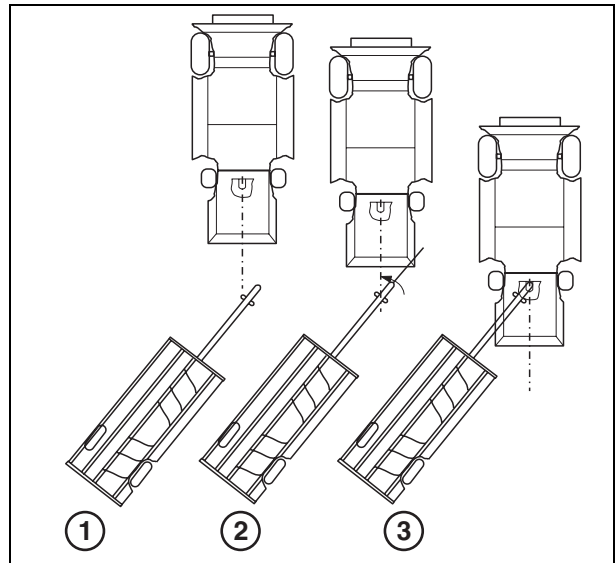

Fig. 8
(Fig. 8)
1. Reverse the combine towards the trailer at an angle as illustrated, (Fig. 8).